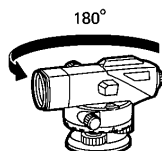

Fig.7.1
⑤ to center the bubble in the circular level ④.
- 2) Turn the instrument 180° (or 200 gon). (Fig.7.1)